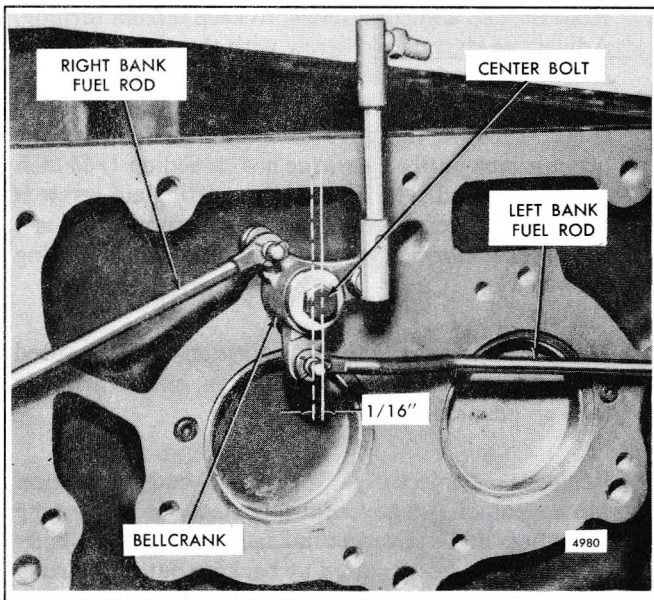

Fig. 5 - Bellcrank in Position (Former Governor)
5. On former governors, position the elongated pin in the bellcrank — the pin which carries the left bank fuel rod — so that it lines up with the center bolt of the bellcrank from vertical to approximately 1/16" off center toward the right cylinder bank (Fig. 5).